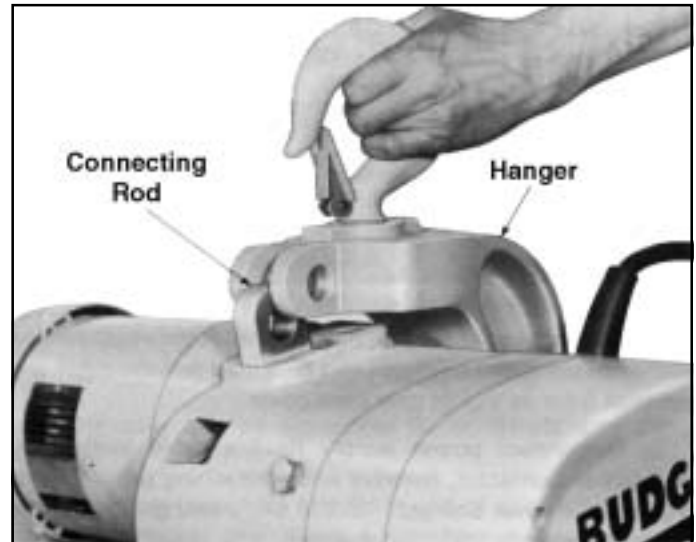
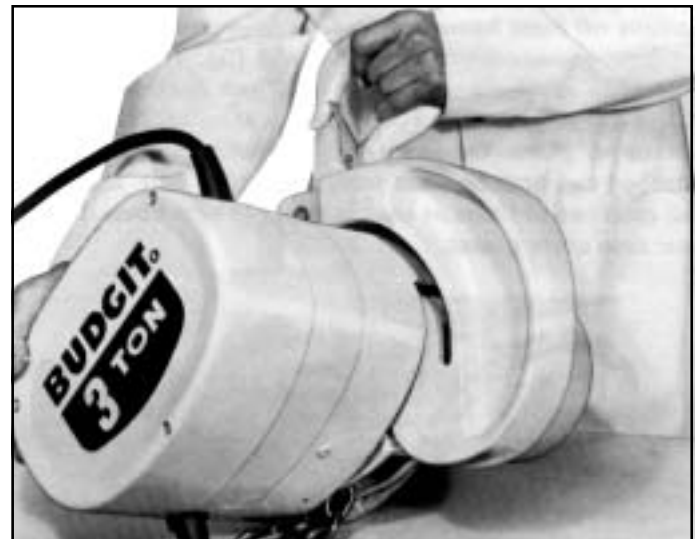

Figure 7-2. Ton Hanger Bracket Connection Pin Removed
Figure 7-3. Removing 3 Ton Hanger Bracket from Hoist Frame
(4) To remove 3 ton hanger bracket from hoist, remove retaining ring and connecting rod pin (see fig. 7-2). Rotate hoist approximately 45° (see fig. 7-3) and hanger will slip free from hoist frame.
(3) On 3 ton models, remove retaining ring from connecting rod pin and push connecting rod pin through bracket and connecting rod, releasing hanger (see fig. 7-2). Raise hanger above hoist frame to provide access to hook nut. Rotate hook until grooved pin in nut is visible from end of hanger frame. Using a drift punch, drive grooved pin thru hook nut until it hits hanger pocket. Remove drift far enough to hold nut from turning and unscrew hook from nut. Thrust washer will fall free.
(4) To remove connecting rod (fig. 7-2) on 3 ton hoist, drive pin from rod nut using drift punch and unscrew connecting rod. Nut is reached thru access hole in side of hoist frame. (See fig. 7-18).